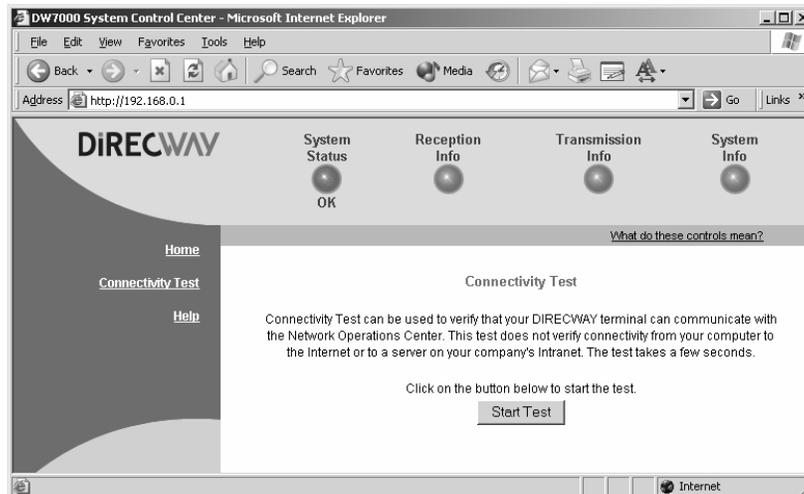

Figure 86: Connectivity Test
1. Click **Connectivity Test** on the left hand side of the System Control Center. The Connectivity Test page shown in Figure 86 appears.